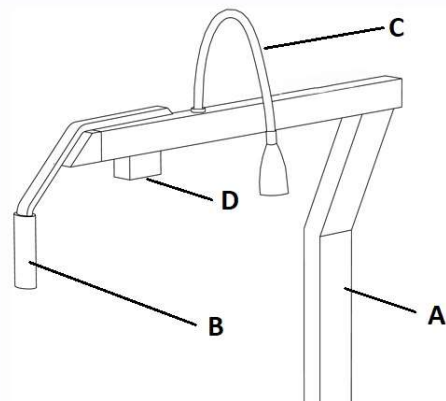

Figure 9: Physiologically pregelatinised phoropter arm (rigid)
- Physiologically pre-inclined phoropter arm (rigid) with phoropter splint (Figure 9)